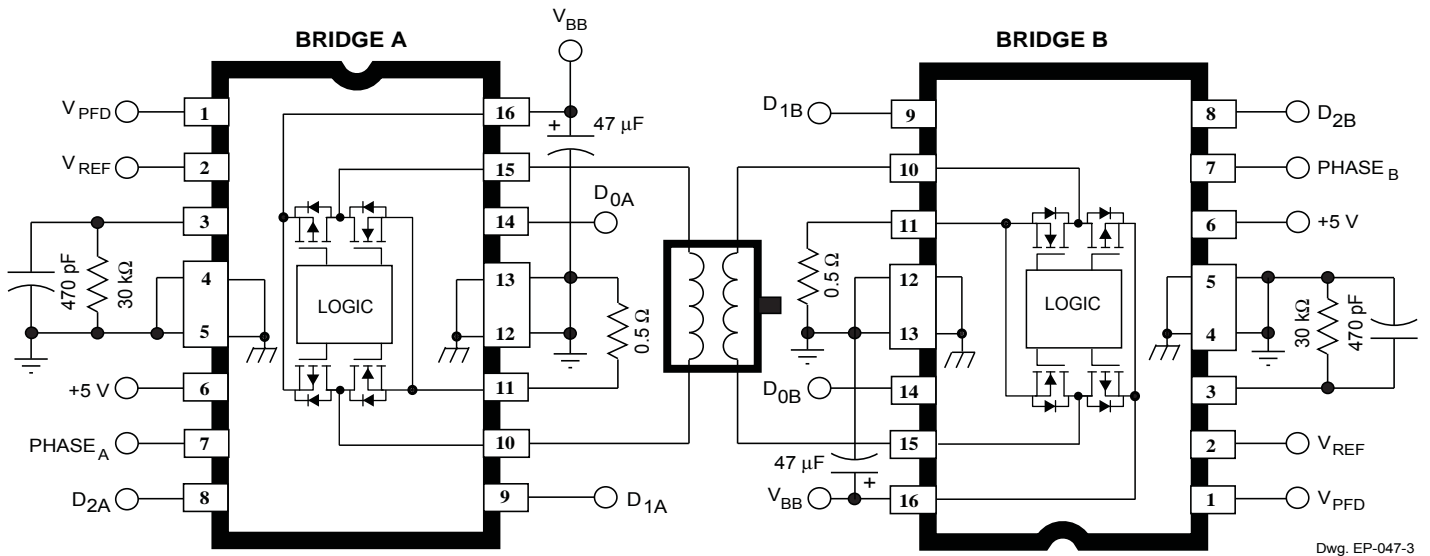

Figure 4 — Typical Application
**Stepper Motor Applications.** The A4975 is used to optimize performance in microstepping/sinusoidal stepper-motor drive applications (see figures 4 and 5). When the load current is increasing, the slow current-decay mode is used to limit the switching losses in the driver and iron losses in the motor. This also improves the maximum rate at which the load current can increase (as compared to fast decay) due to the slow rate of decay during  $t_{OFF}$ . When the load current is decreasing, the mixed current-decay mode is used to regulate the load current to the desired level. This prevents tailing of the current profile caused by the back-EMF voltage of the stepper motor (see figure 3A).